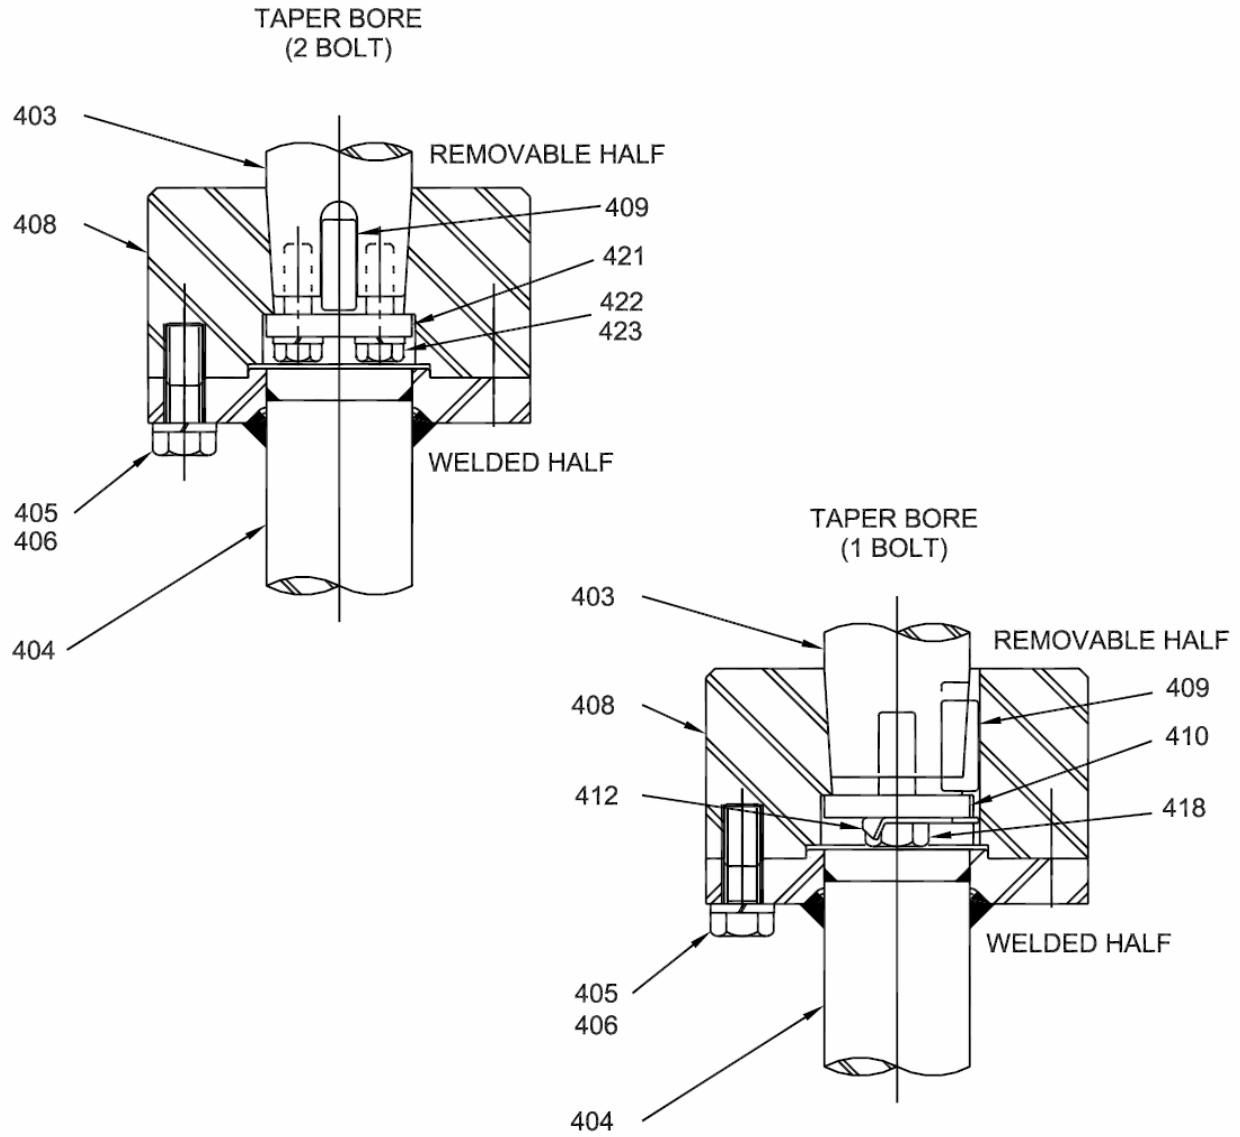
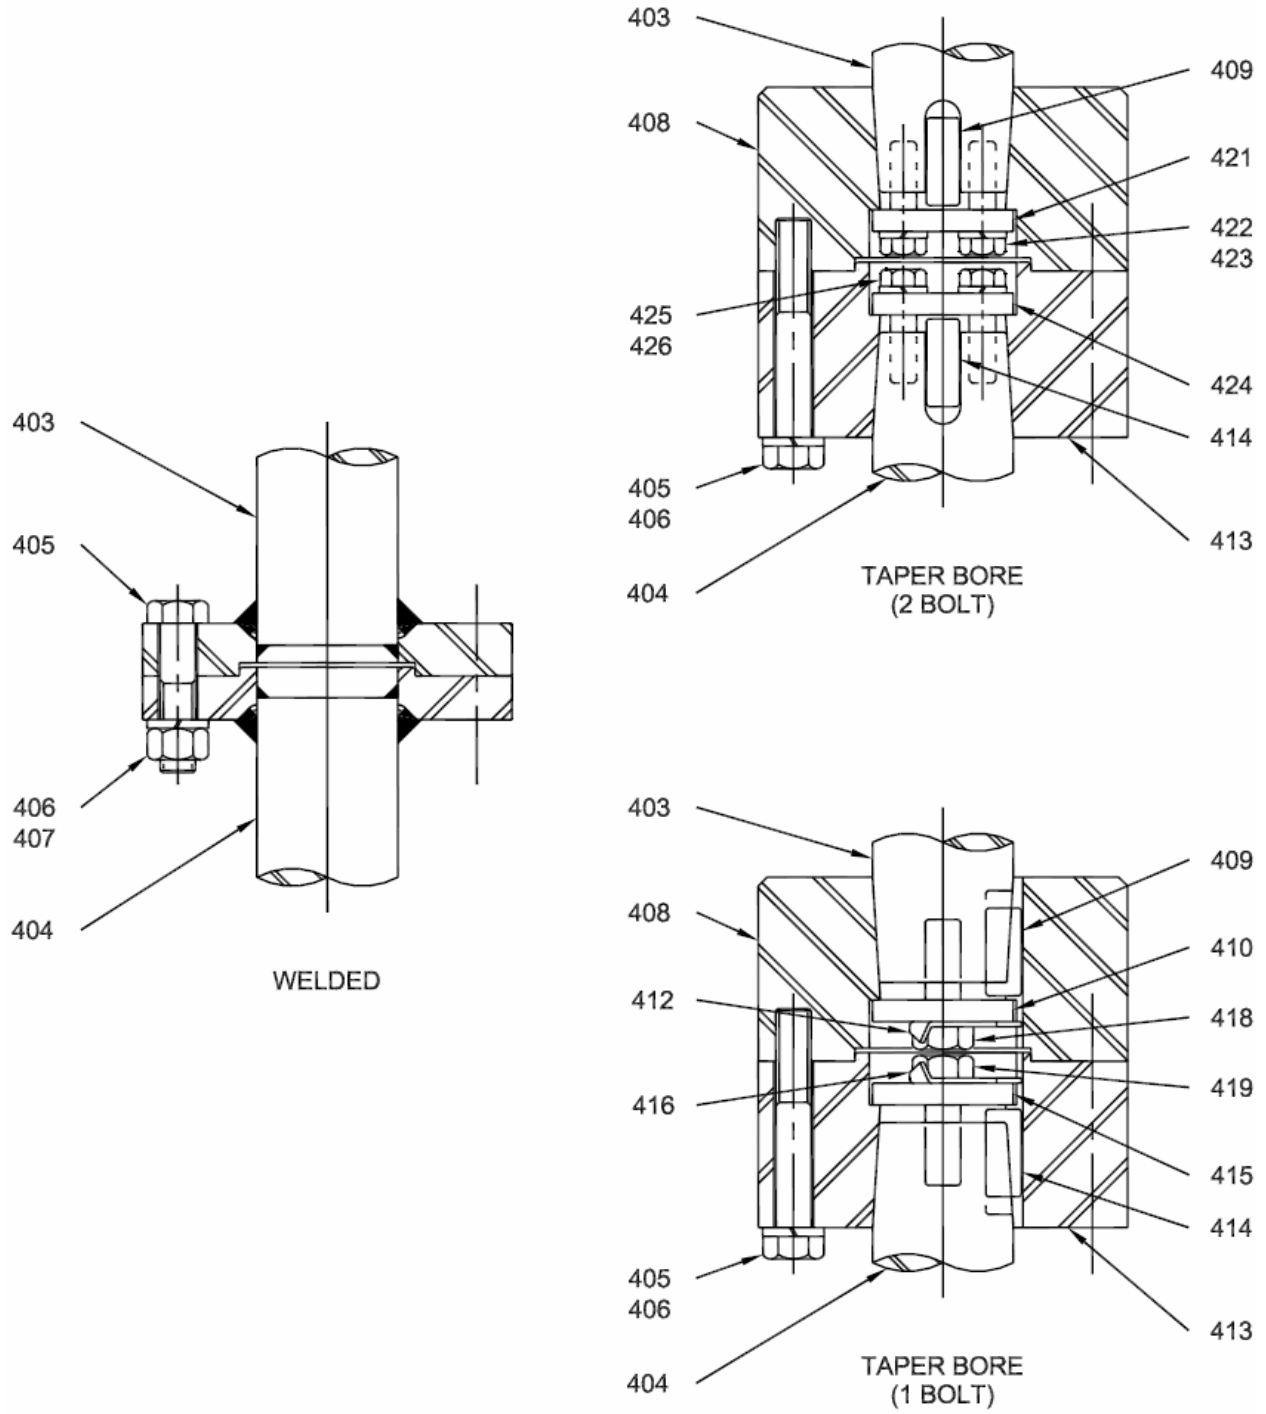

Figure 18. In-Tank Couplings
Figure 18A. In-Tank Couplings (Continued)
***NOTE:** Whenever assembly or disassembly of an agitator with an in-tank coupling is referred to in this manual, substitute flanged drive shaft [403] and/or flanged extension shaft [404] Figure 18 on page 40 or Figure 18A on page 41) for all references to the agitator extension shaft [400].*